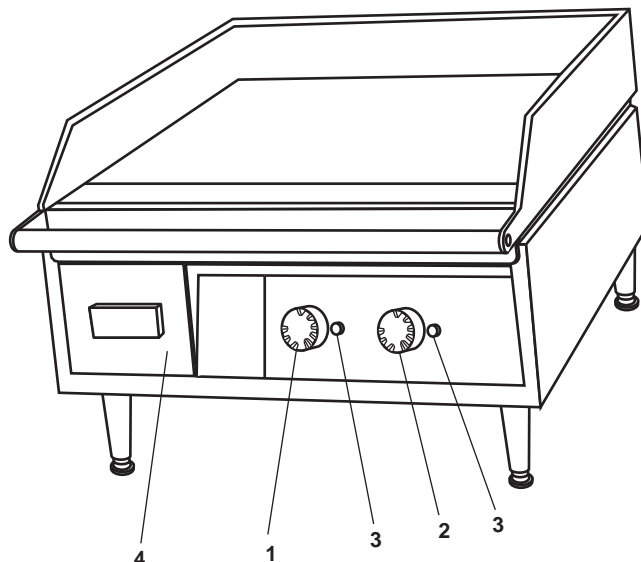

Figure 8. Griddle
- a. Set the LEFT SIDE temperature control (figure 8, item 1) and the RIGHT SIDE temperature control (figure 8, item 2) to 400 °F (204 °C).
- b. When the HEATING indicator lights (figure 8, item 3) go out, use a clean cloth to spread a light film of unsalted cooking oil or fat over the cooking surface.
- a. Set the LEFT SIDE temperature control (figure 8, item 1) and the RIGHT SIDE temperature control (figure 8, item 2) to the desired temperature. When the HEATING indicator lights (figure 8, item 3) go out, the griddle is ready.
- b. Use a metal spatula to turn food being cooked and use it to push excess oil or grease into the grease drawer (figure 8, item 4). This will reduce smoking.
- c. Set the LEFT SIDE temperature control (figure 8, item 1) and the RIGHT SIDE temperature control (figure 8, item 2) to 200 °F (93.33 °C) during idle periods.
- a. Set the LEFT SIDE temperature control (figure 8, item 1) and the RIGHT SIDE temperature control (figure 8, item 2) to the OFF position.
- b. The HEATING indicator lights (figure 8, item 3) will go out.
- c. Slide the grease drawer (figure 8, item 4) out and empty into an approved container after each shift and wash it with washing detergent. Rinse and dry with a soft cloth. Replace the drawer.